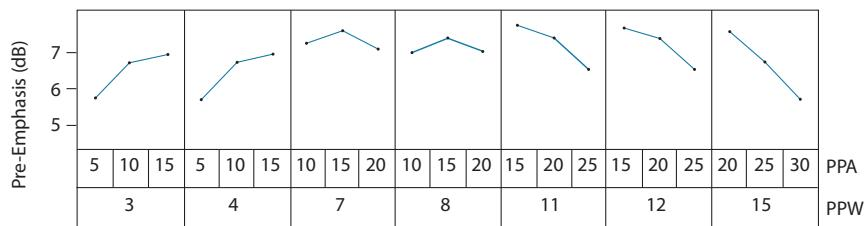
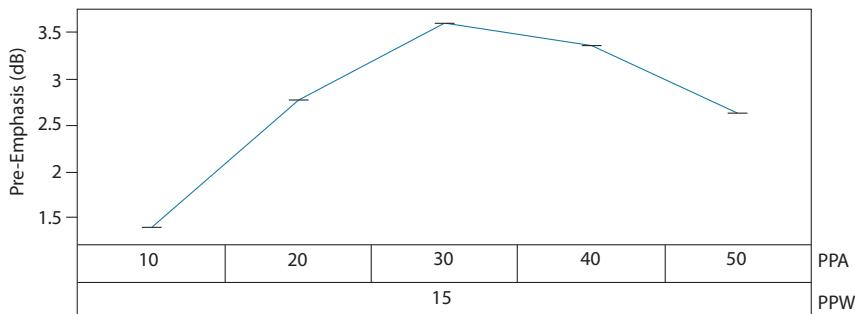

Figure 4-12: Pre-emphasis Settings for $VCCO_1 = 1.2V$ and $DS = 7$ (swing = $200mV_{pp}$)
Figure 4-19: Pre-emphasis Settings for $VCCO_1 = 2.5V$ and $DS = 35$ (swing = $800mV_{pp}$)
The only requirement of the Trace Driver pre-emphasis settings is to minimize ISI introduced by a lossy link and maximize the eye opening at the receiver. The pre-emphasis compensation of the GS12090 output channel is a two-step process. The first step is to use the settings from Figure 4-12 to Figure 4-19 that best match the insertion loss of the link in the application, while the second step is a fine optimization procedure.
1. Pre-emphasis Amplitude (PPA) Optimization: Set the PPA and PPW to the values obtained from the graph selected out of Figure 4-12 to Figure 4-19, and then measure the downstream jitter. While keeping PPW constant, increment the PPA by 'a'. If the jitter is lower after the first increment, continue to increment by 'a' until the jitter begins increasing or a setting of 50 is reached. If there was a setting which resulted in a lower jitter measurement than the initial setting, that is the Optimized Pre-emphasis Amplitude setting: $PPA_{Optimal}$, and the PPA optimization procedure is complete.
If incrementing the PPA or decrementing the PPA did not result in a setting with lower jitter, then the initial setting obtained from the graph selected out of Figure 4-12 to Figure 4-19 is the PPA optimized Pre-emphasis Amplitude setting: $PPA_{Optimal}$.
2. The second step is to set the PPA to the optimized setting $PPA_{Optimal}$ determined in step 1 and PPW to the values obtained from the graph selected out of Figure 4-12 to Figure 4-19, then measure the downstream jitter. While keeping PPA constant, increment the PPW by 'w'. If the jitter is lower after the first increment, continue to increment by 'w' until the jitter begins increasing or a setting of 15 is reached. If there was a setting which resulted in a lower jitter measurement than the initial setting, that is the Optimized Pre-emphasis Width setting: $PPW_{Optimal}$, and the optimization procedure is complete.
If incrementing the PPW or decrementing the PPW did not result in a setting with lower jitter, then the initial setting value obtained from the graph selected out of Figure 4-12 to Figure 4-19 is the optimized Pre-emphasis Width setting: $PPW_{Optimal}$.